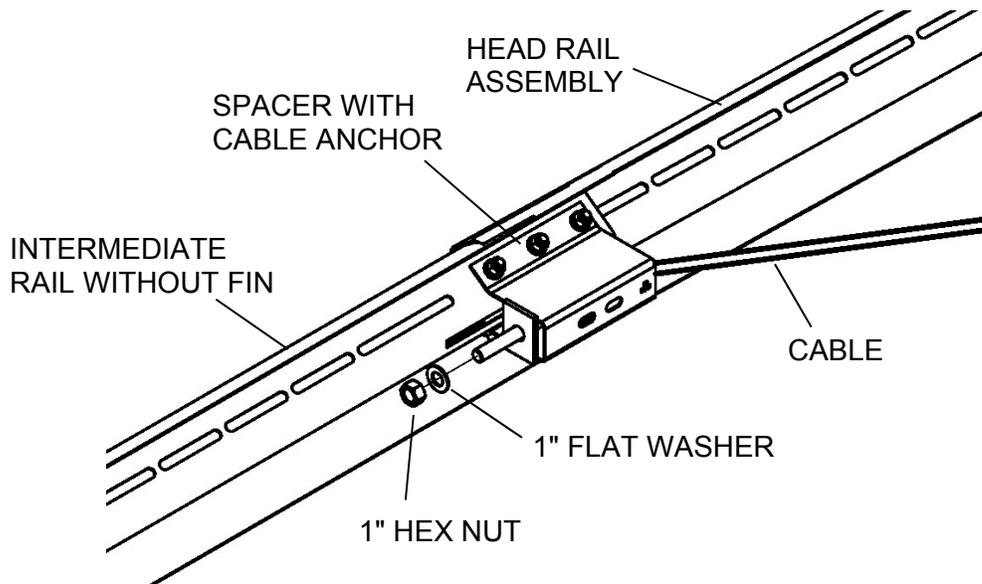

Figure 19 - Cable to Spacer Attachment
- 7.2 Insert the other end of the Cable through the Spacer with Cable Anchor. Secure the Cable using (1) 1" flat washer and (1) 1" hex nut. Restrain the Cable with Vise Grip Pliers at the end being tightened to avoid twisting the Cable. Make sure the nuts are tight and the Cable is taut (Figure 19; Post 2 not shown for clarity).